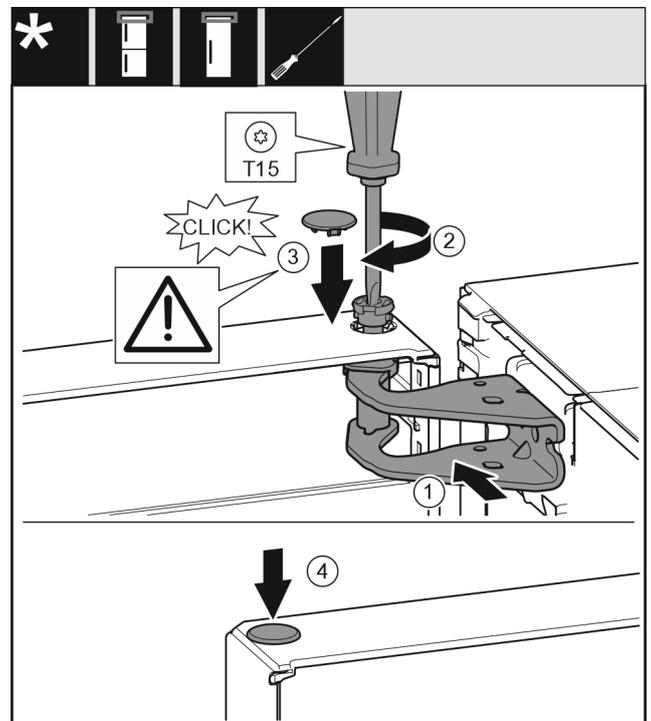

Fig. 24
- ▶ Align the top of the door with opening in the bearing bracket. Fig. 24 (1)
- ▶ Insert the bolt and tighten with a T15 screwdriver. Fig. 24 (2)
- ▶ Fit the protective cover to protect the door: Insert the protective cover and check that it is flush to the door. If not, insert the bolt fully. *Fig. 24 (3)*
- ▶ Insert the plugs. *Fig. 24 (4)*